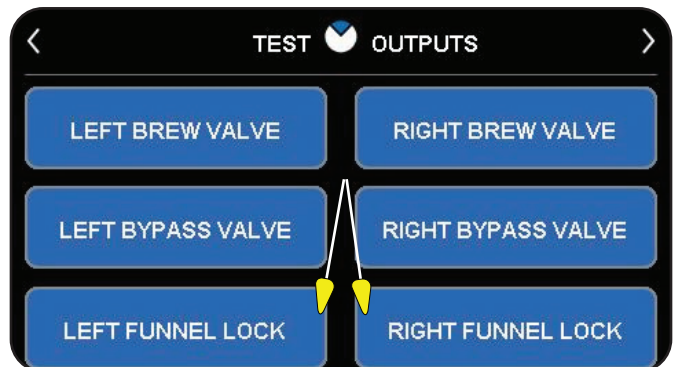

FIG. 30-3 FUNNEL LOCK SOLENOID
3. Check the funnel lock for action. Select and touch the funnel lock button to activate the funnel coil, plunger should drop down in front of brew funnel. (Fig. 30-3)